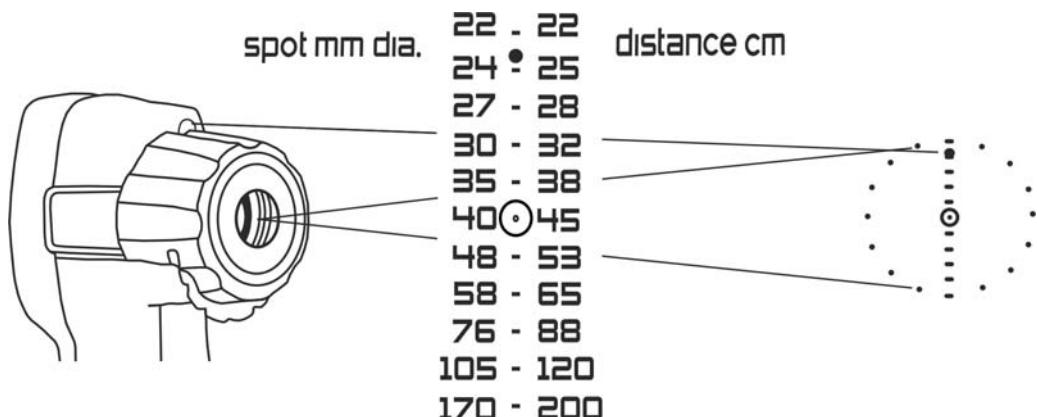

Fig. 15: Laser pointer activation
4. Press and hold keep the Trigger key **T** to activate the instrument and direct it towards the surface of the object whose temperature must be measured. The laser pointer on the upper part o the instrument (see Fig. 1 – part 1) and the area laser beam are directed towards the target (see Fig. 15).